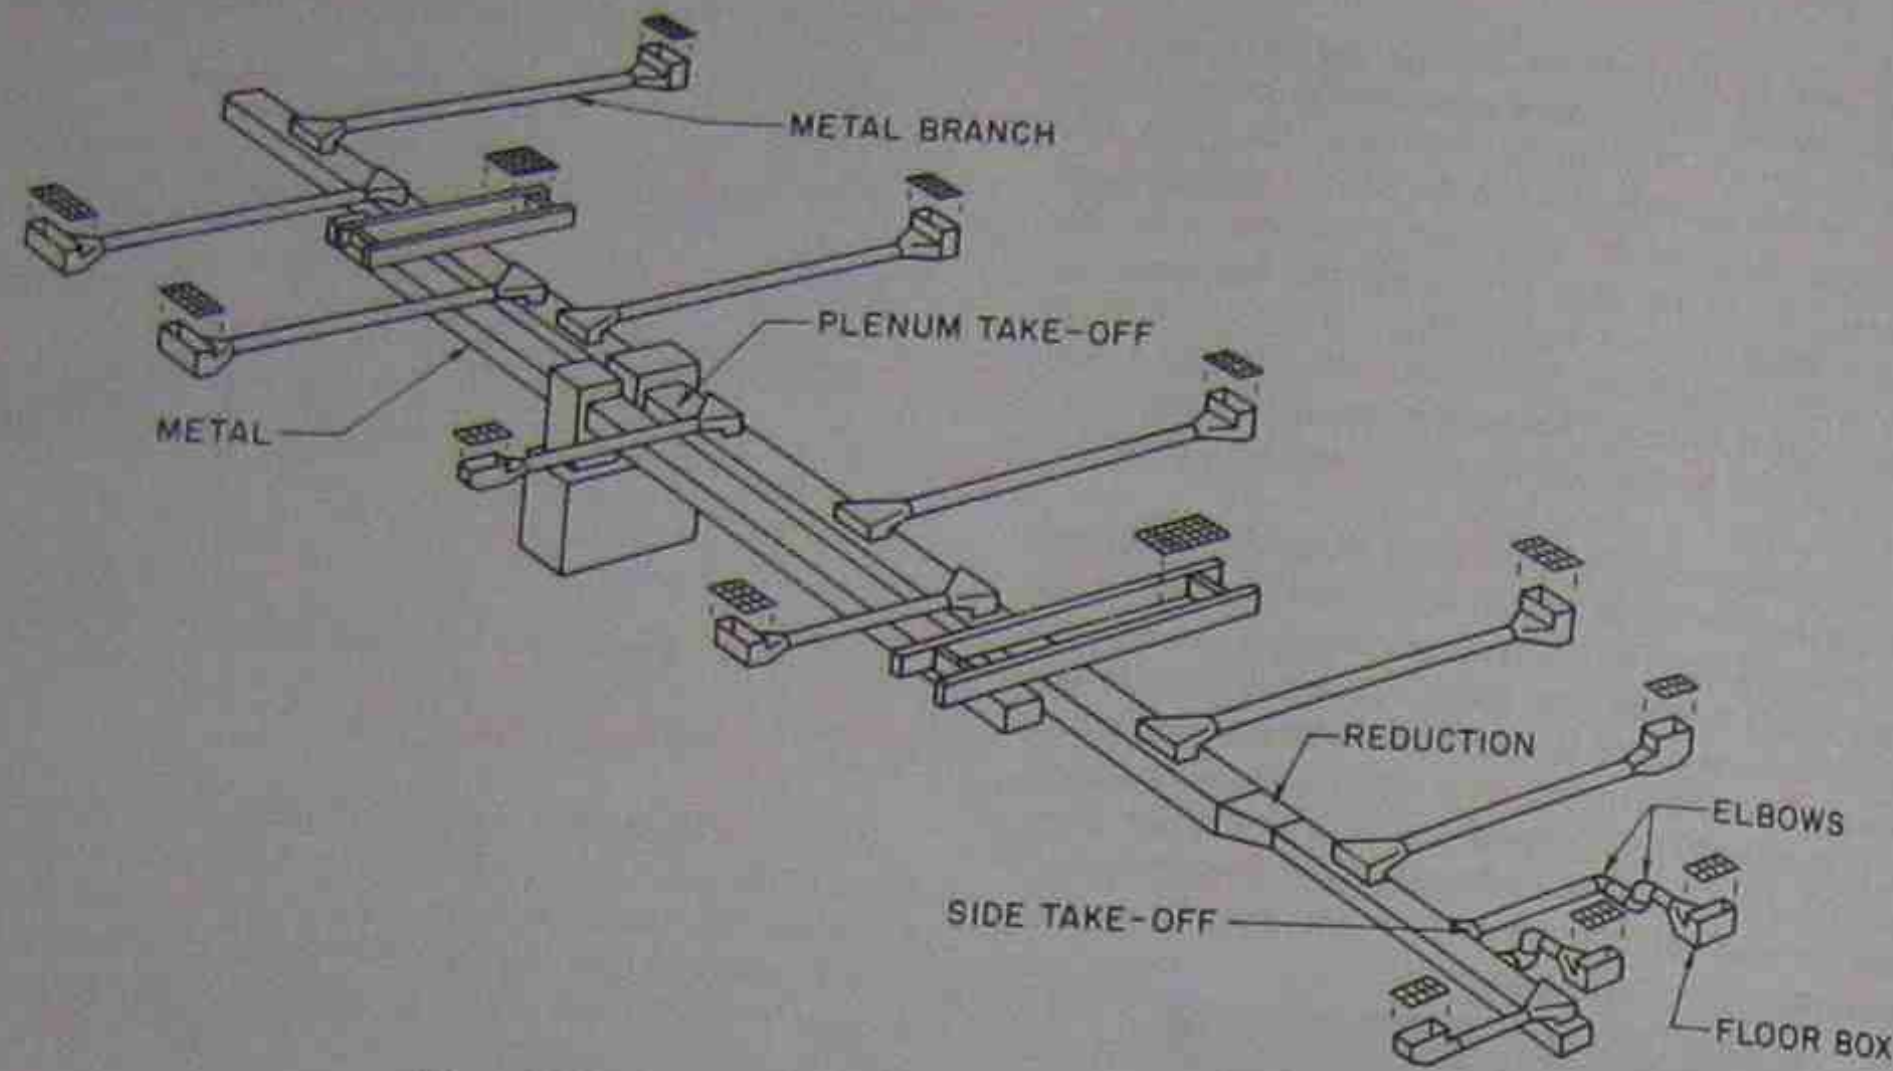

Figure 39-35. Rectangular metal trunk duct with round metal branch ducts.
2. Metal trunk lines with round metal branch duct, Figure 39-35.